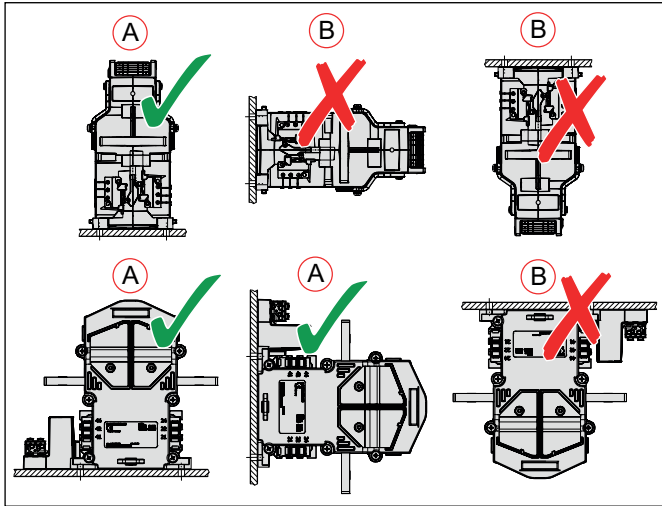
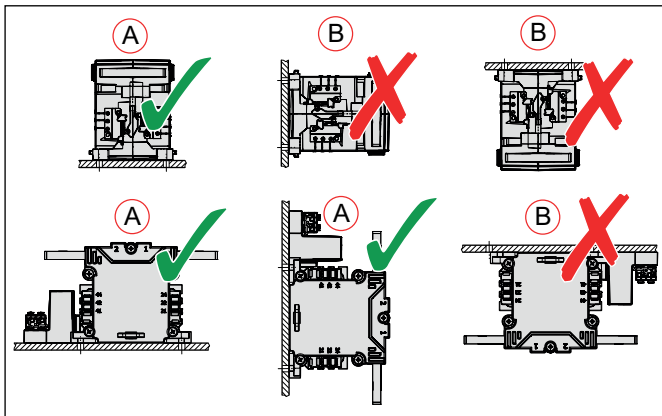

Fig. 3: C320K: Examples of correct mounting positions (A) and incorrect mounting positions (B).
Fig. 4: C320S: Examples of correct mounting positions (A) and incorrect mounting positions (B).
The contactors are designed for horizontal or vertical mounting. Examples of correct mounting positions are presented in *Fig. 3/A* and *Fig. 4/A*. Incorrect mounting positions are shown in *Fig. 3/B* and *Fig. 4/B*. These mounting positions (B) are not permitted!